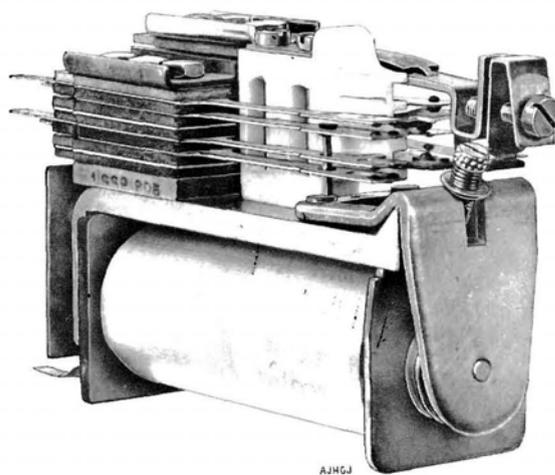
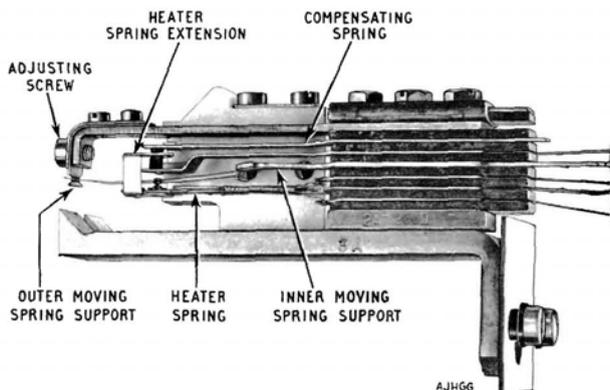

FIG. 3.—COMPOSITE RELAY WITH MARK 1A THERMAL SPRING-SET
FIG. 1.—MARK 1 THERMAL SPRING-SET
3. Marks 1 and 1A.—An improved thermal spring-set is now available and is known as the 'Mark 1A', the earlier spring-set design being referred to hereafter as 'Mark 1'. Figs. 1 and 2 show Marks 1 and 1A respectively, and Fig. 3 shows a composite relay with a Mark 1A thermal spring-set.